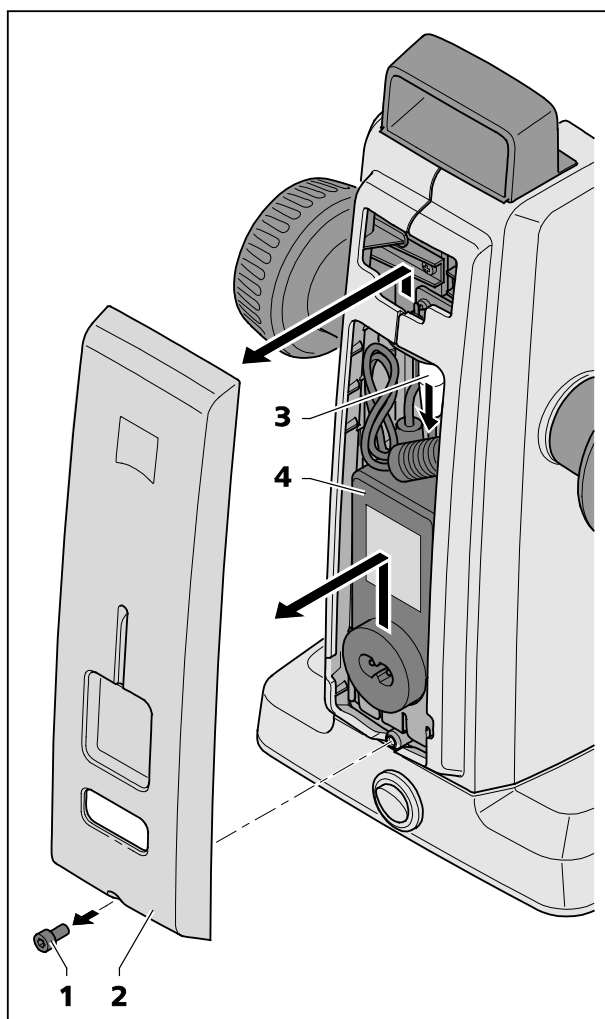

Fig. 22 Changing the power unit
- Use an Allen key to release the screw (Fig. 22/1) on the underside of the housing cover.
- Pull off housing cover (Fig. 22/2) slightly at the bottom, then press it upwards.
- Release the plug (Fig. 22/3) and remove the faulty desktop power unit (Fig. 22/4).